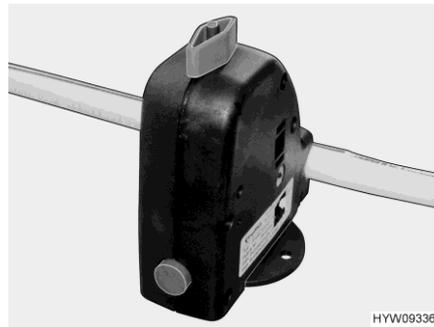

Fig. 102 Safety/drainage valve
- Open the safety/drainage valve (Fig. 102). To do this, turn the knob (Fig. 102) parallel to the safety/drainage valve. Position, see section 10.2.2.